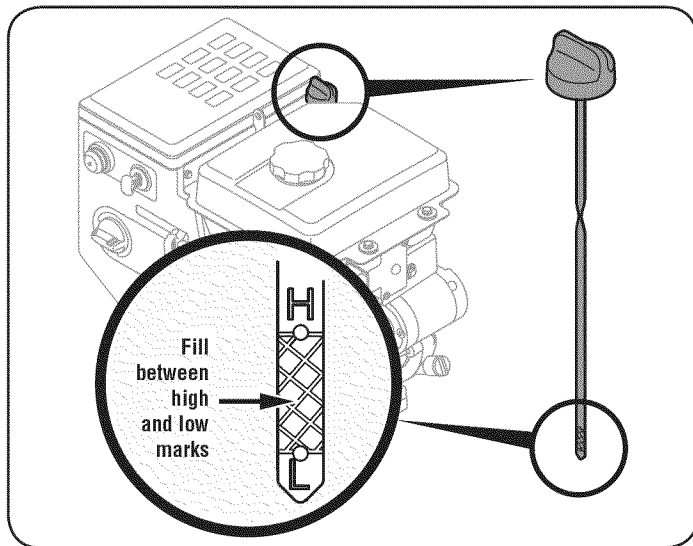

Figure 10
- Keep oil level between “H” and “L” marks on dipstick. See Figure 10.
1. Remove the oil filler cap/dipstick and wipe the dipstick clean. See Figure 10.
3. Remove the oil filler cap/dipstick. If the level is low, slowly add oil until oil level registers between high (H) and low (L), Figure 10.